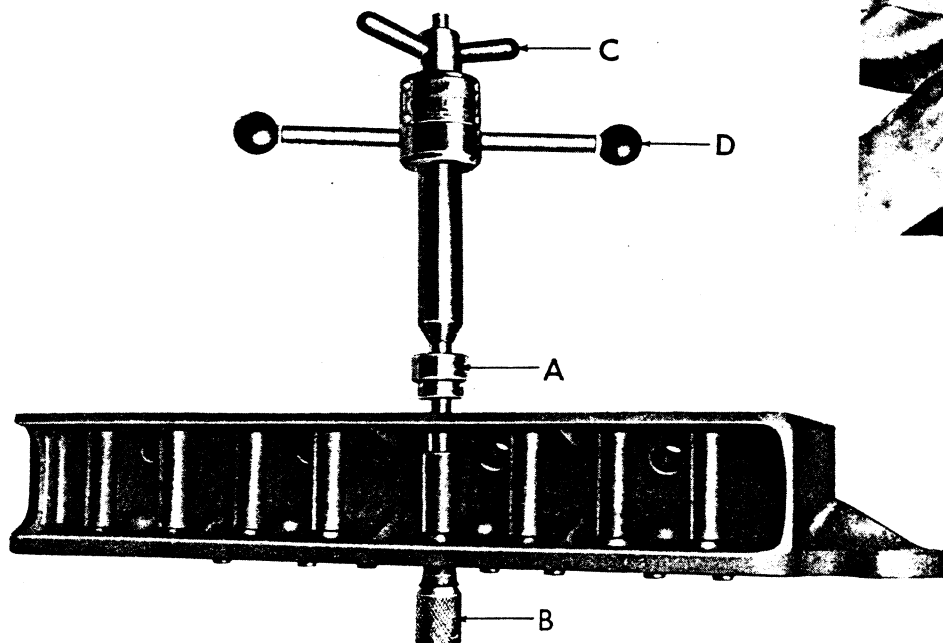

FIG. 10
1. Cut through the tube with a hack-saw. Fig. 10 inset.
Place collar A on tool shank as shown in Fig. 10.